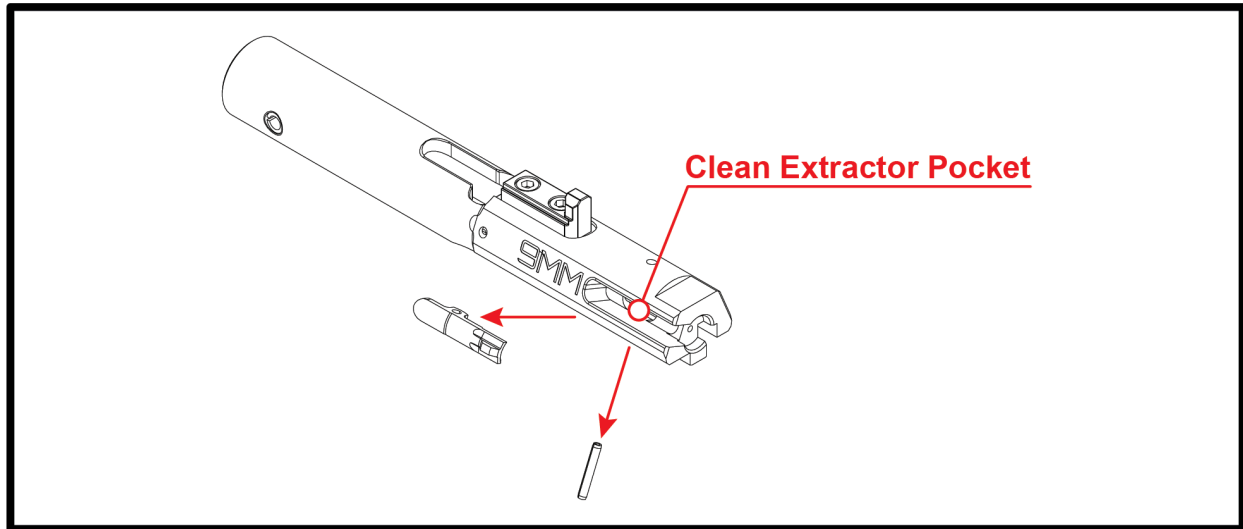

FIGURE 15.2 - Extractor Maintenance
15.2 Extractor Maintenance (FIGURE 15.2)